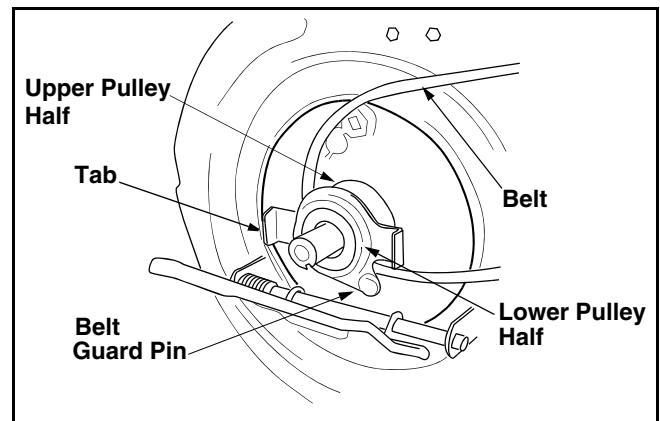

Figure 20
- Place the belt between the two pulley halves on the crankshaft. Make sure to route the belt inside the belt guard pin. See Figure 20.